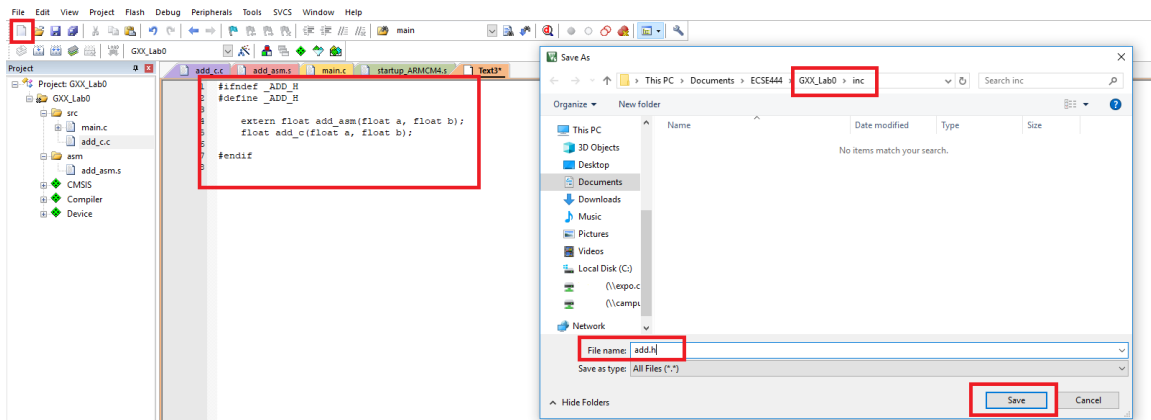

Figure 23: Creating the header file.
3. Create a new file **add.h**, fill in the code provided and save it in the *inc* folder as shown in Figure 23. This file does not need to be added to the project, simply saving it in the *inc* folder is enough.